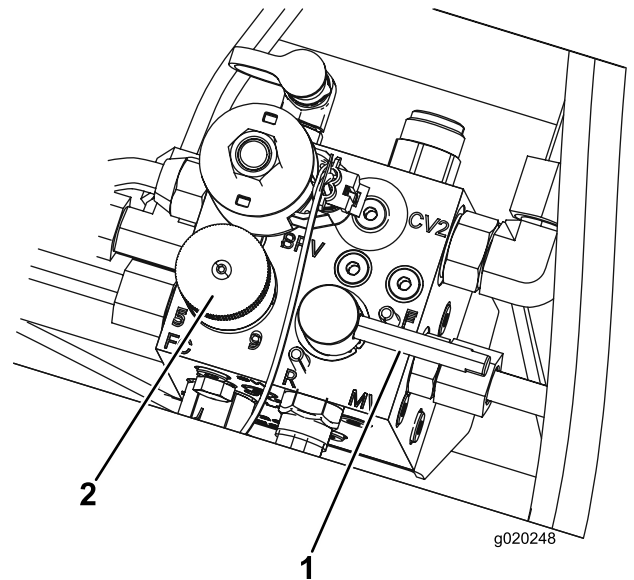

Figure 82
5. Set the reel speed control to position 1 (Figure 82).
6. Move the backlap lever to the R (backlap) position (Figure 82).